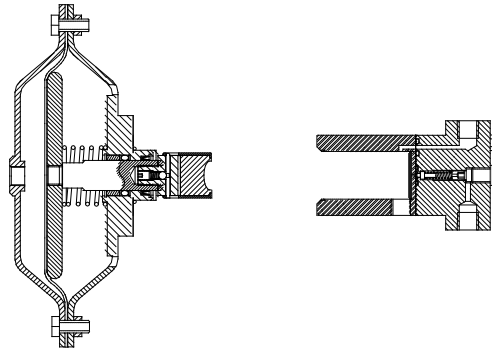

FIGURE 5
- 3.2.4 Unscrew the complete diaphragm housing from the sampler body (see Figure 5).